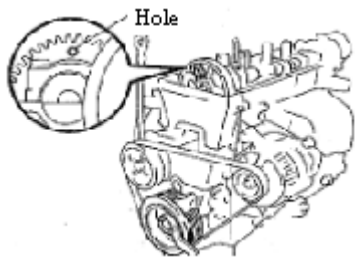

Figure 12
(1) Turn the pulley to access the hole on the camshaft drive gear where the counter gear is installed. See (Figure 12).